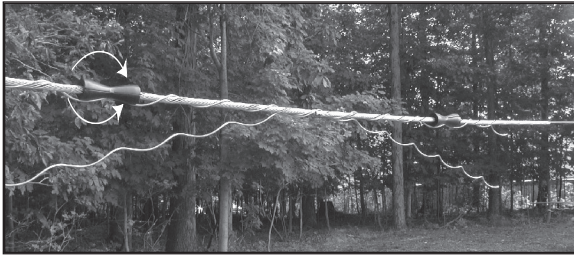
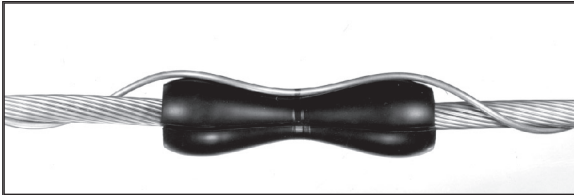
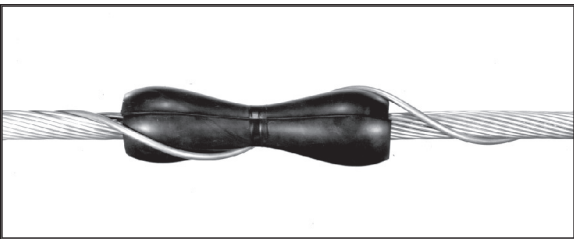

FIGURE 15: MOVE ROD AROUND INSERT UNTIL ROD FITS CONTOUR
FIGURE 16: CORRECT ROD APPLICATION
FIGURE 17: INCORRECT ROD APPLICATION
4.05 Wrap the first rod around the SRRs outward from center toward each neoprene insert (Figure 15). Start the rod onto each neoprene insert and lay the rod down into the contour of the hourglass shape of the insert. If the rod does not follow the contour of the neoprene, lift slightly and move the rod clockwise or counter clockwise about the cable axis (Figure 15) until the rod fits the contour as shown in Figure 16. Figure 17 shows the incorrect application.